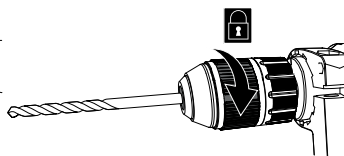

Fig. 3
- > Hold the keyless chuck (3) in position and turn the chuck sleeve (2) clockwise until the drill bit is properly fastened in the chuck jaws (1) (Fig. 3).